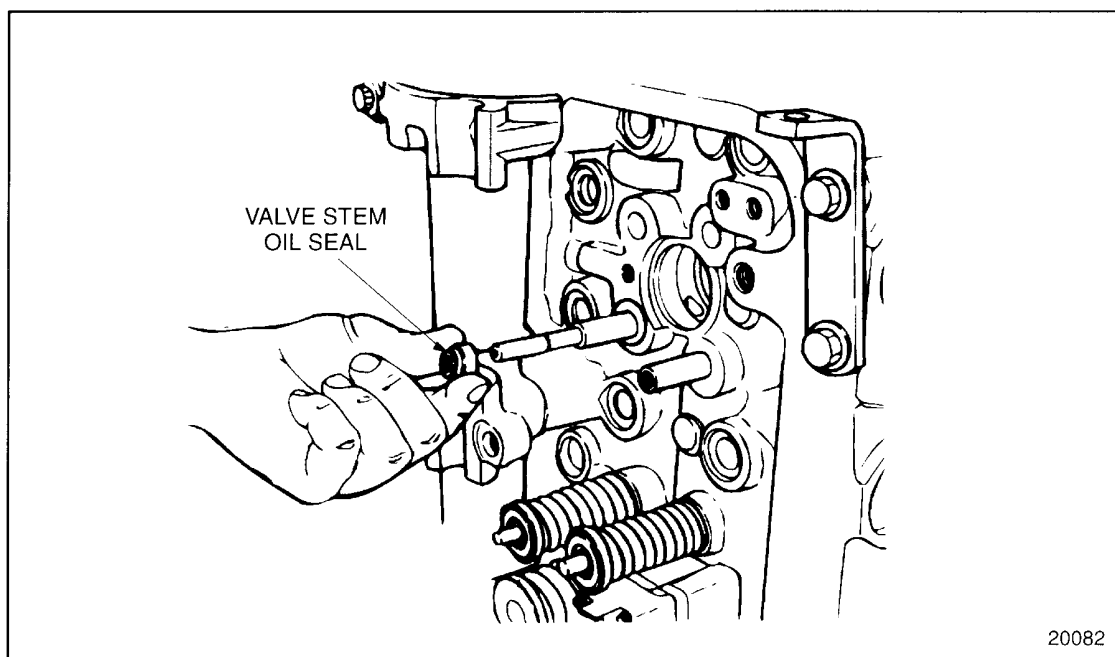

Figure 1-90 Valve Stem Oil Seal Installation
5. The valve stem oil seal may be installed with or without oil. Push the seal over the protector. See Figure 1-90.